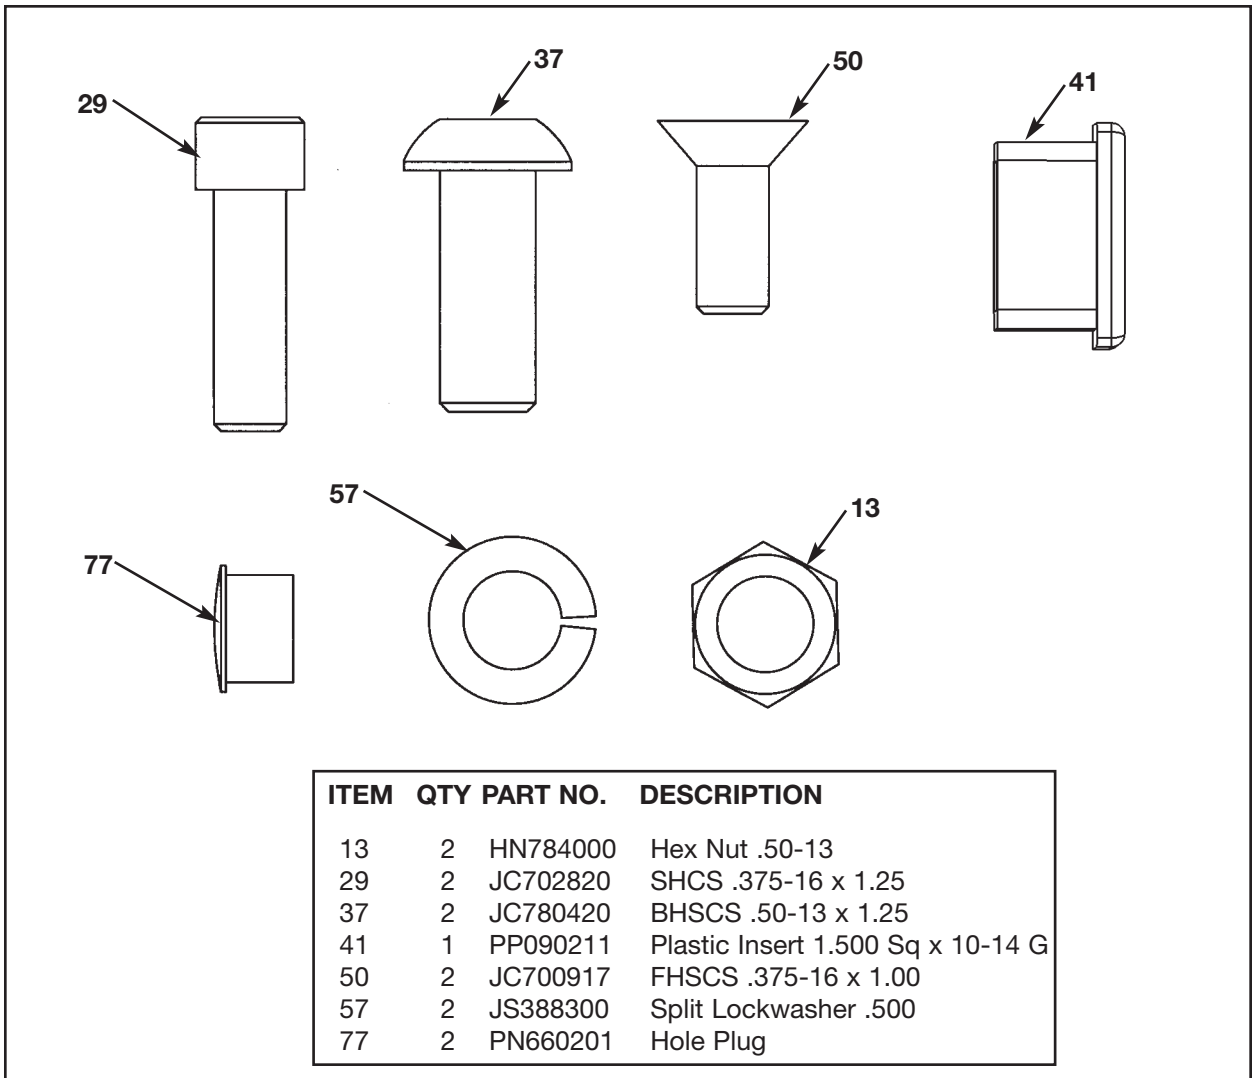

Figure 11
5. Install the Leg Press Assembly to the appropriate configuration (see steps 5A - 5F and Figures 11 - 13B).
- B. Verify contents of hardware pack. See Figure 11.